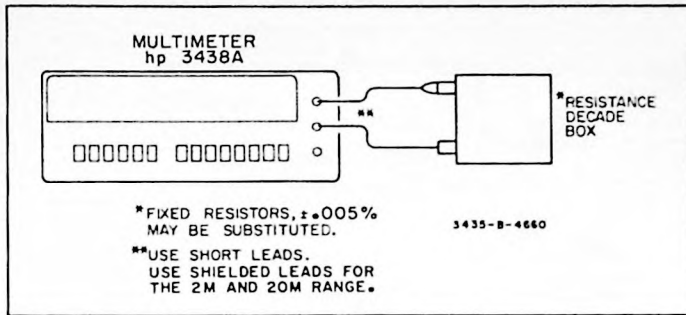

Figure 4-6. Ohms Accuracy Test.
b. Connect the equipment as shown in Figure 4-6.